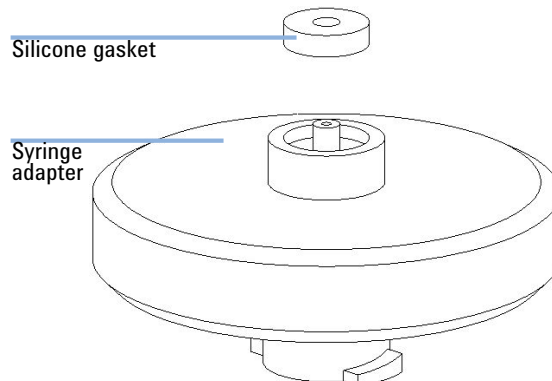

Figure 7 Syringe adapter with disassembled gasket
- 2 Pull out the old silicone gasket with your fingers or tweezers. See Figure 7 on page 132 for a disassembled adapter.